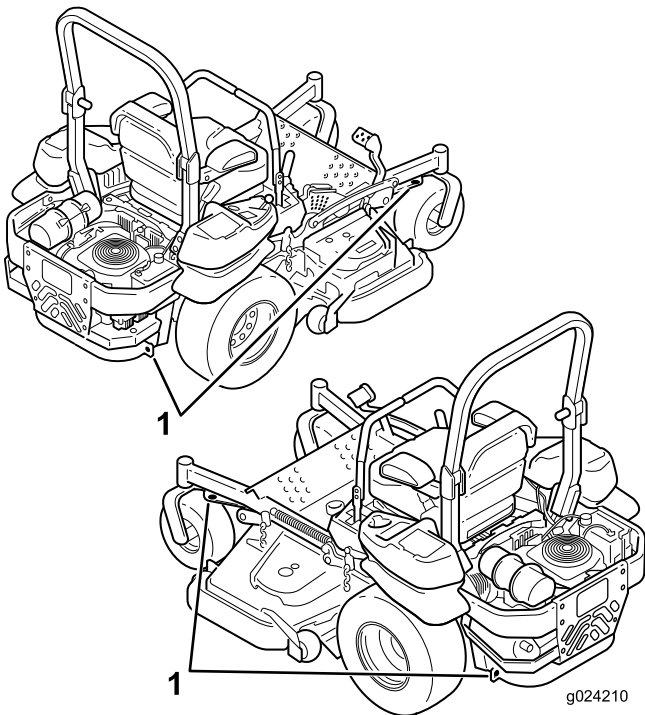

Figure 34
5. Use the metal tie down loops on the machine to securely fasten the machine to the trailer or truck with straps, chains, cable, or ropes (Figure 34).